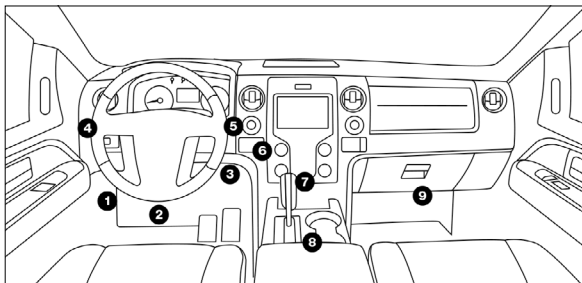

Figure 2-2
2. Locate vehicle's DLC port. See Figure 2-2 for possible DLC location.